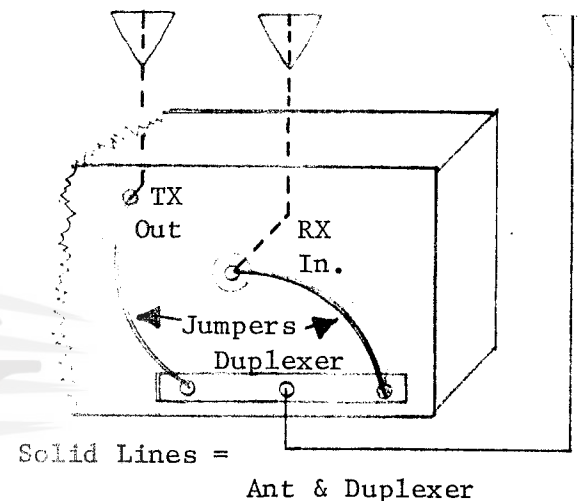

Figure 2-2. Repeater Coax Connectors
11. If two antennas are used, connect each antenna to proper connector on repeater rear panel; however, if a single antenna and duplexer are used, connect antenna to duplexer and use two coax jumpers to connect duplexer to receiver input, and to transmitter output. Refer to Figure 2-2 for location of coax connectors on unit rear panel.